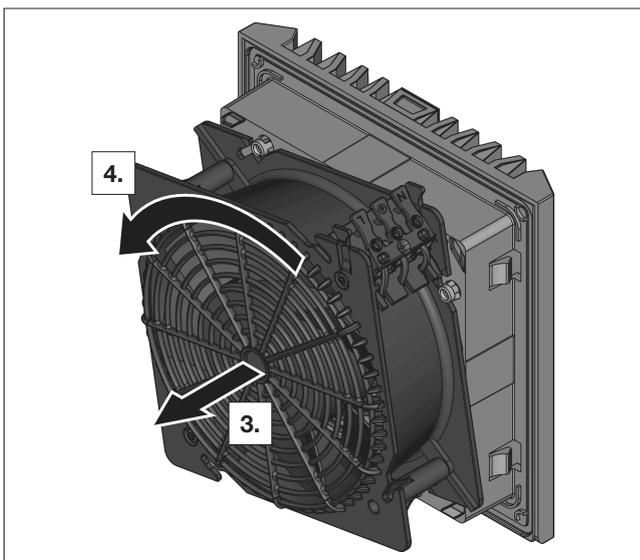

Fig. 13: Turning the fan housing
- Then turn the fan housing by 90°, 180° or 270° so that the electrical connection is in the desired position (see fig. 13).